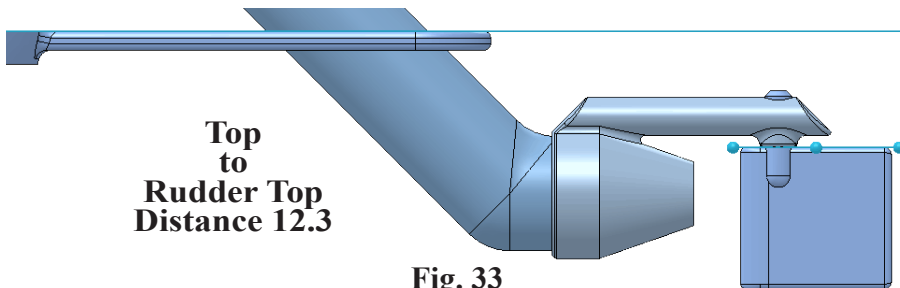

Fig. 33
Step 5. Click **Distance**  in Mate pop-up, **Fig. 32**. Set **distance 12.3** and press ENTER. The **Rudder** should be below Nozzle arm, **Fig. 33**. If positioned in opposite direction, click **Flip Dimension**  in the Mate pop-up. Click Add/Finish Mate  to add Distance mate.